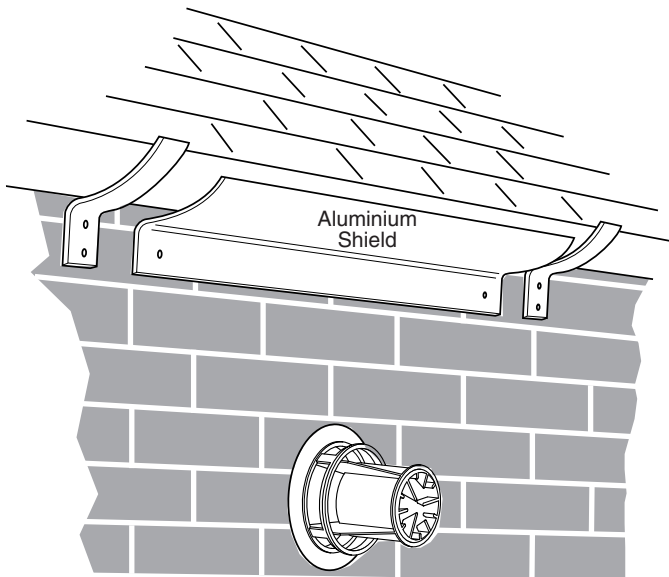

Fig. 10
3. If the terminal is fitted within 1 metre of a plastic gutter, within 500mm of a painted eave or a painted gutter, an aluminium shield of at least 1 metre long should be fitted to the underside of the gutter or painted surface. An air space of 5mm should be left between shield and gutter (Fig. 10).
Terminal Position with Minimum Distance (Fig. 10) (mm)